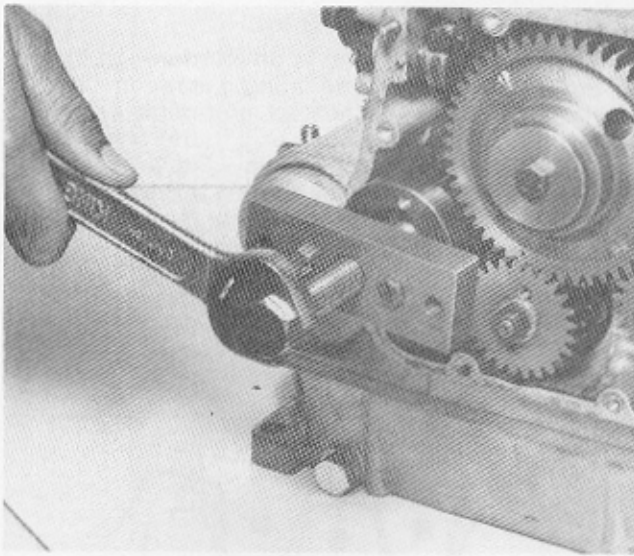

Figure 5.15 Crankshaft Gearwheel Removal Using Gearwheel Puller
- (5) Remove the crankshaft gearwheel retaining bolt and plate. Replace the retaining bolt to prevent damage to the shaft thread when removing the gearwheel.
- (6) Using a suitable gearwheel puller (obtainable from Petters Limited or their representatives) remove the gearwheel. (Figure 5.15)
- (7) Drain the oil from the sump and remove the sump (Section 2).
- (8) On AC2 engines only remove the oil suction pipe and strainer (Section 2).
- (9) Remove the cylinder(s), piston(s) and connecting rod(s) as detailed in Paragraph 5.16.
- (10) On two cylinder engines remove the two bolts that hold the intermediate main bearing housing in position. Note the positions of the two bearing housing halves and remove.
- (11) Remove the six 5/16 in. UNF self-locking nuts and washers retaining the flywheel end main bearing housing and guard.
- (12) Remove the flywheel guard and housing assembly.
- (13) Withdraw the crankshaft by pulling towards the flywheel end of the engine and remove the crankshaft thrust washers.